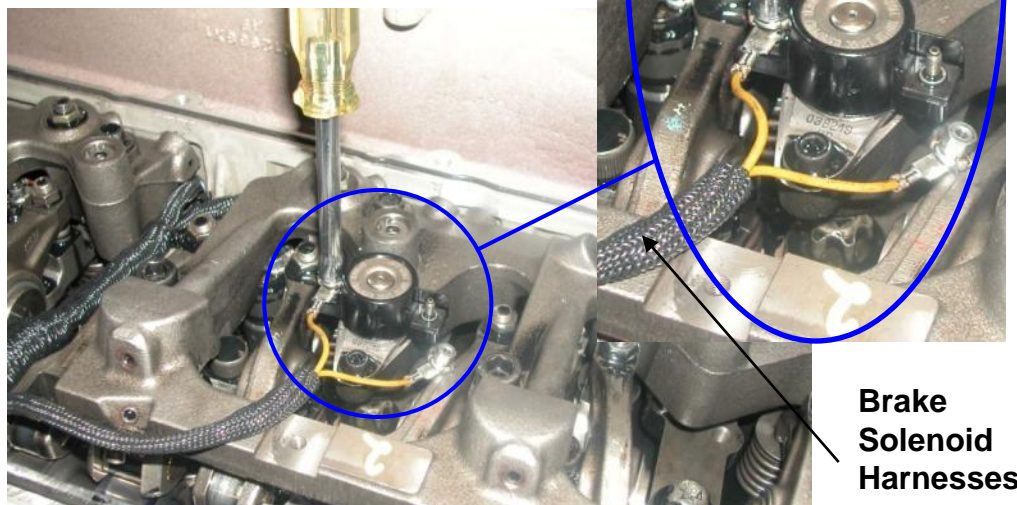

Fig 14
- Attach the solenoid harnesses (See Fig 14) to the solenoids these are part of the injector harness. Hold the terminals stationary to avoid twisting and tighten the connector nuts to 3.5 Nm (31 in-lbs)